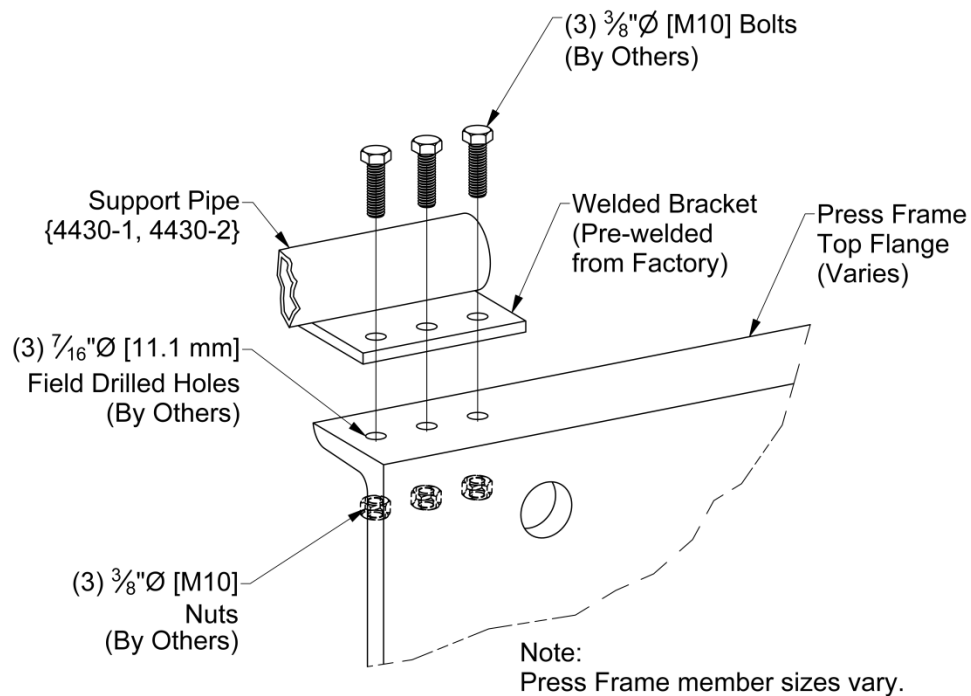

Figure 6
Step 2: Attach the Support Pipe by installing (3) $\frac{3}{8}$ " \varnothing [M10] bolts through the Welded Bracket and tightening the nuts as shown in Figure 6 below.